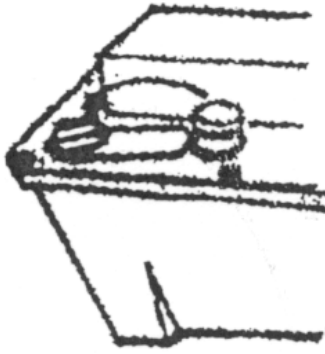

Figure 3-2.
3. To prevent fluid leakage during shipment, a shipping plug is installed in the reservoir fill hole. During operation, the reservoir must be vented. Before startup, pull the vented cap from its rubber strap, unscrew the shipping plug and install the vented cap. Tighten the vented cap securely from the bottom because the top rotates. Do not over-tighten. See Figure 3-2.